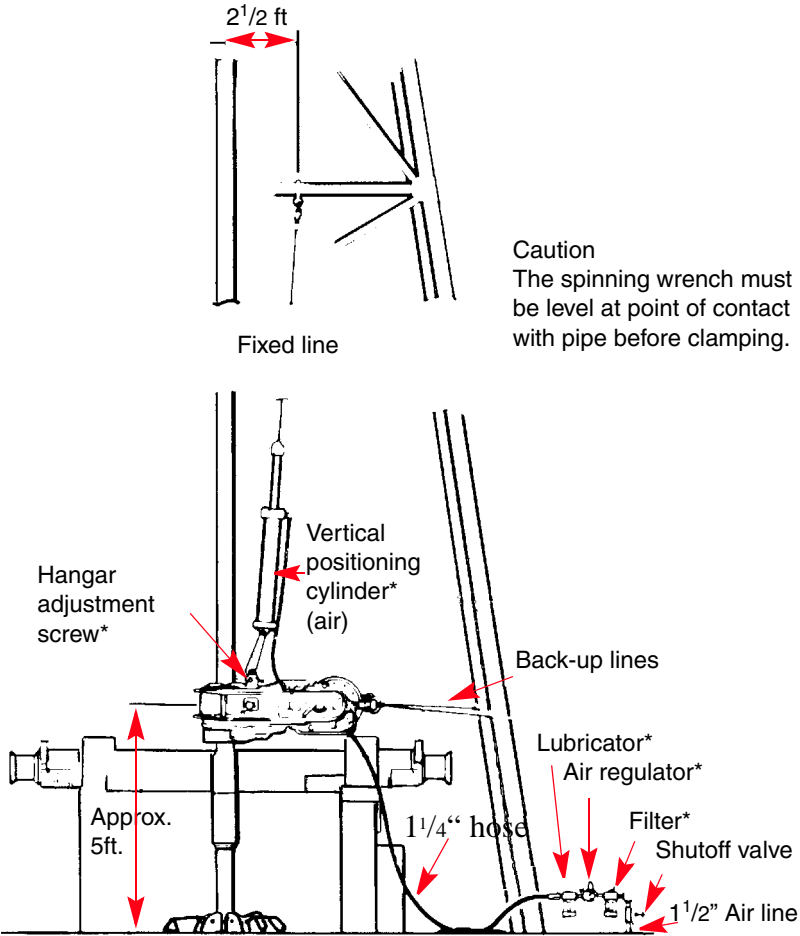

Figure 2.1 \* Supplied with spinning wrench
- ❑ Attach the cable at a cross member about 2,5 feet from the drill pipe centerline (as shown in fig. 2.1) and position the wrench across from the driller where the chainman would normally stand.